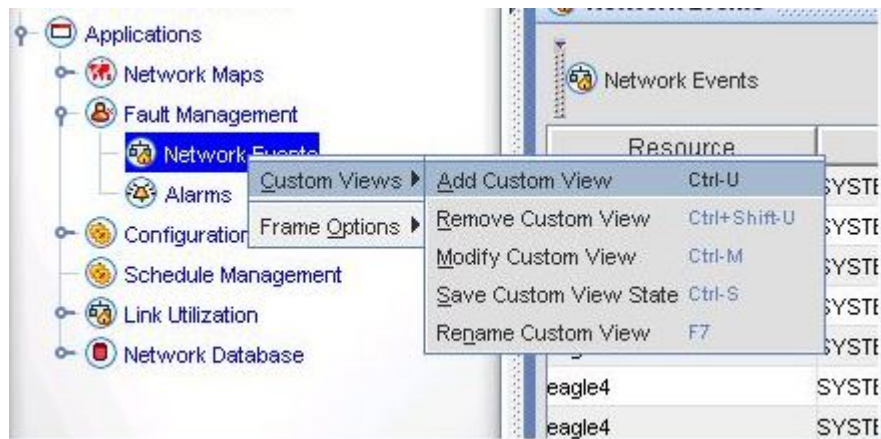

Figure 187: Add Custom View By Using Left Navigation Pane
- Right-click on the node (Network Events or Alarms) in the left navigation pane, and choose **Custom Views > Add Custom View** as shown in Figure 187: Add Custom View By Using Left Navigation Pane.